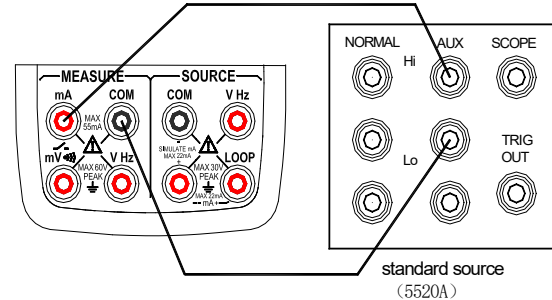

Figure 17 Calibrating DC current 50mA
Step 3: Connect the lead cables to the output terminals of the standard source as shown in Figure 17.